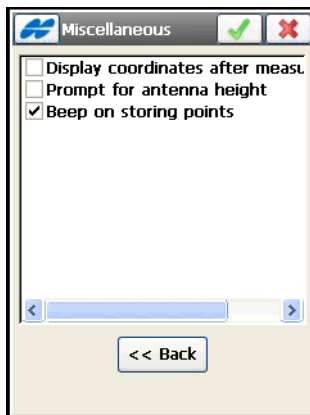

Figure 4-28. Miscellaneous
17. On the *Miscellaneous* screen (Figure 4-28), select the necessary options to customize the user interface during GPS measurements: display of computed coordinates, prompts for antenna height, and beeps upon storing points.